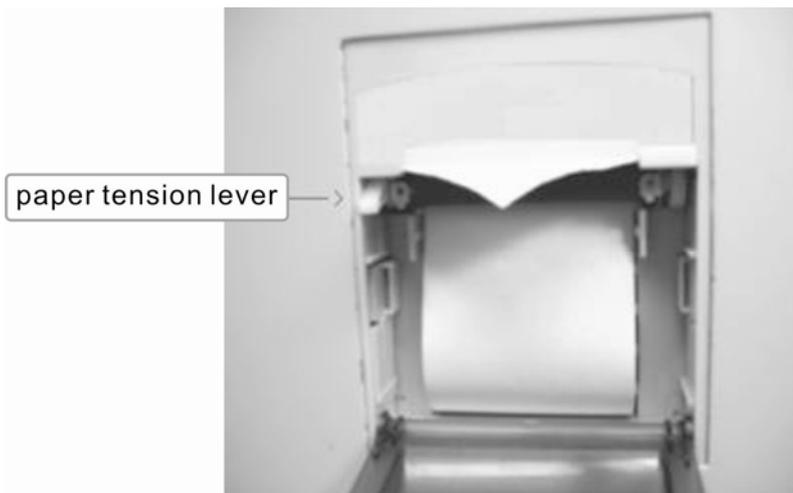

Figure 4-12
2. Flip the paper tension lever on the left side upwards. Keep the printing side face-down. Insert the pointed end of the paper into the slot below the paper rod and push the paper until it comes out from above the rod. Pull the paper out. Keep the paper centered and place the paper into the paper holder. See Figure 4-12;